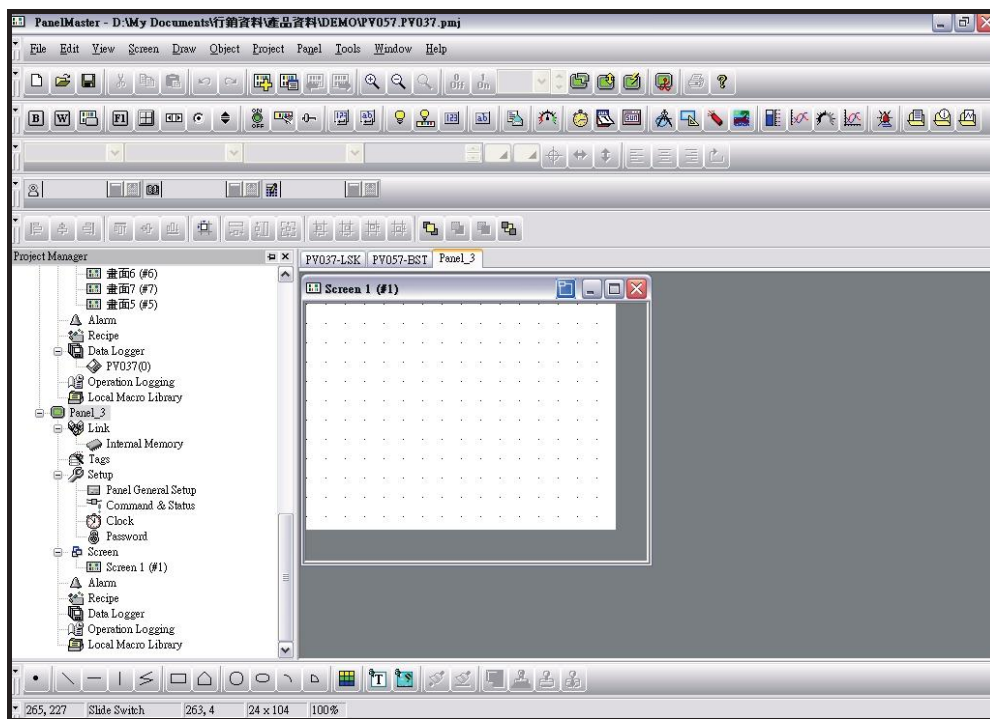

Figure 2-95 New project_step 4_ setting completed
Step 4 : Click **【finish】** to complete a project setting. The PanelMaster will open a blank screen of the specified panel (PV057-TST) as shown in figure 2-95.